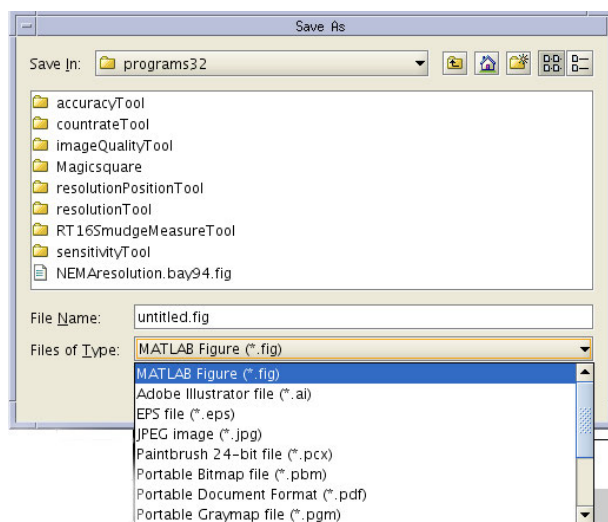

Figure 2.11: Save As Browser with Files of Type List Displayed.
- a.) Click or drag to SAVE AS to display a browser presented in Figure 2.11.